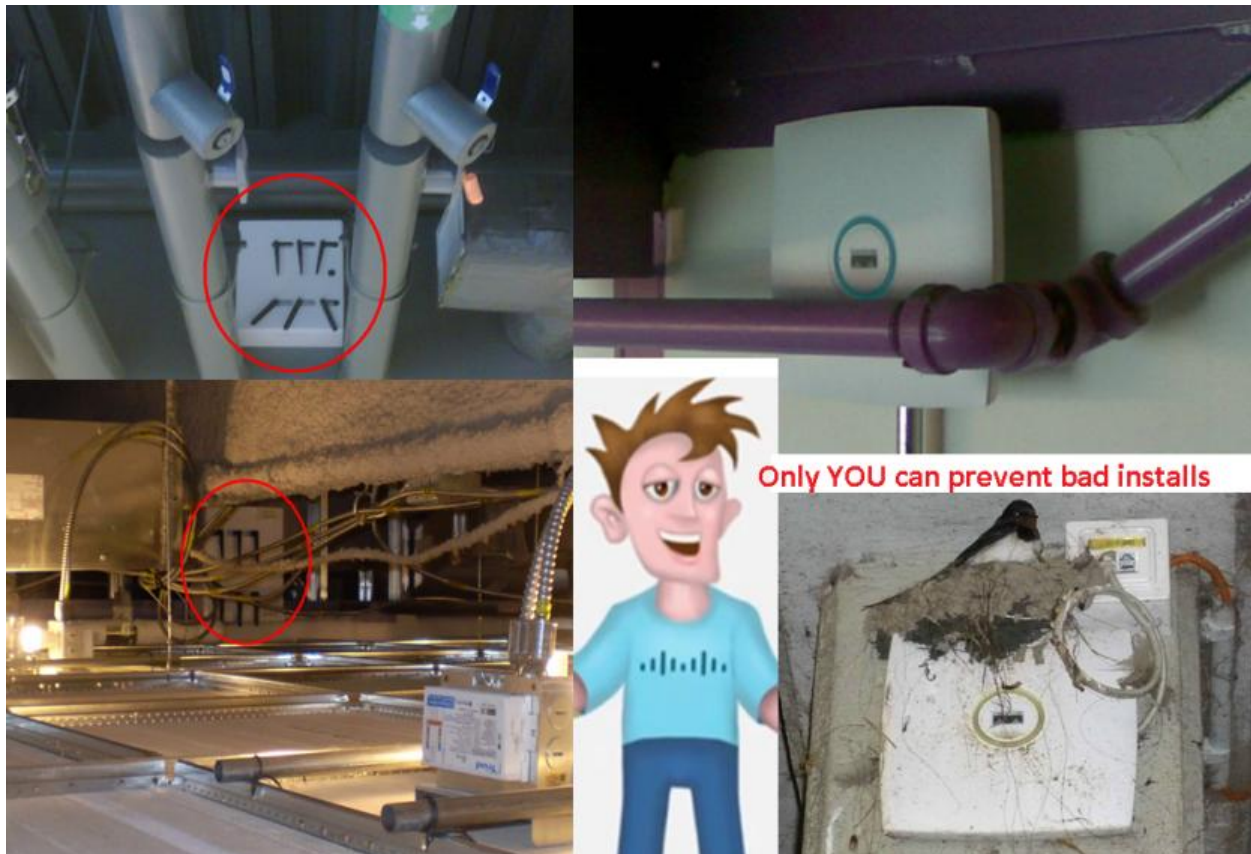

Figure 62: Improper Installation: AP near Metal and Clutter
- Keep the AP away from clutter and metal objects. (See Figures 62 and 63.)